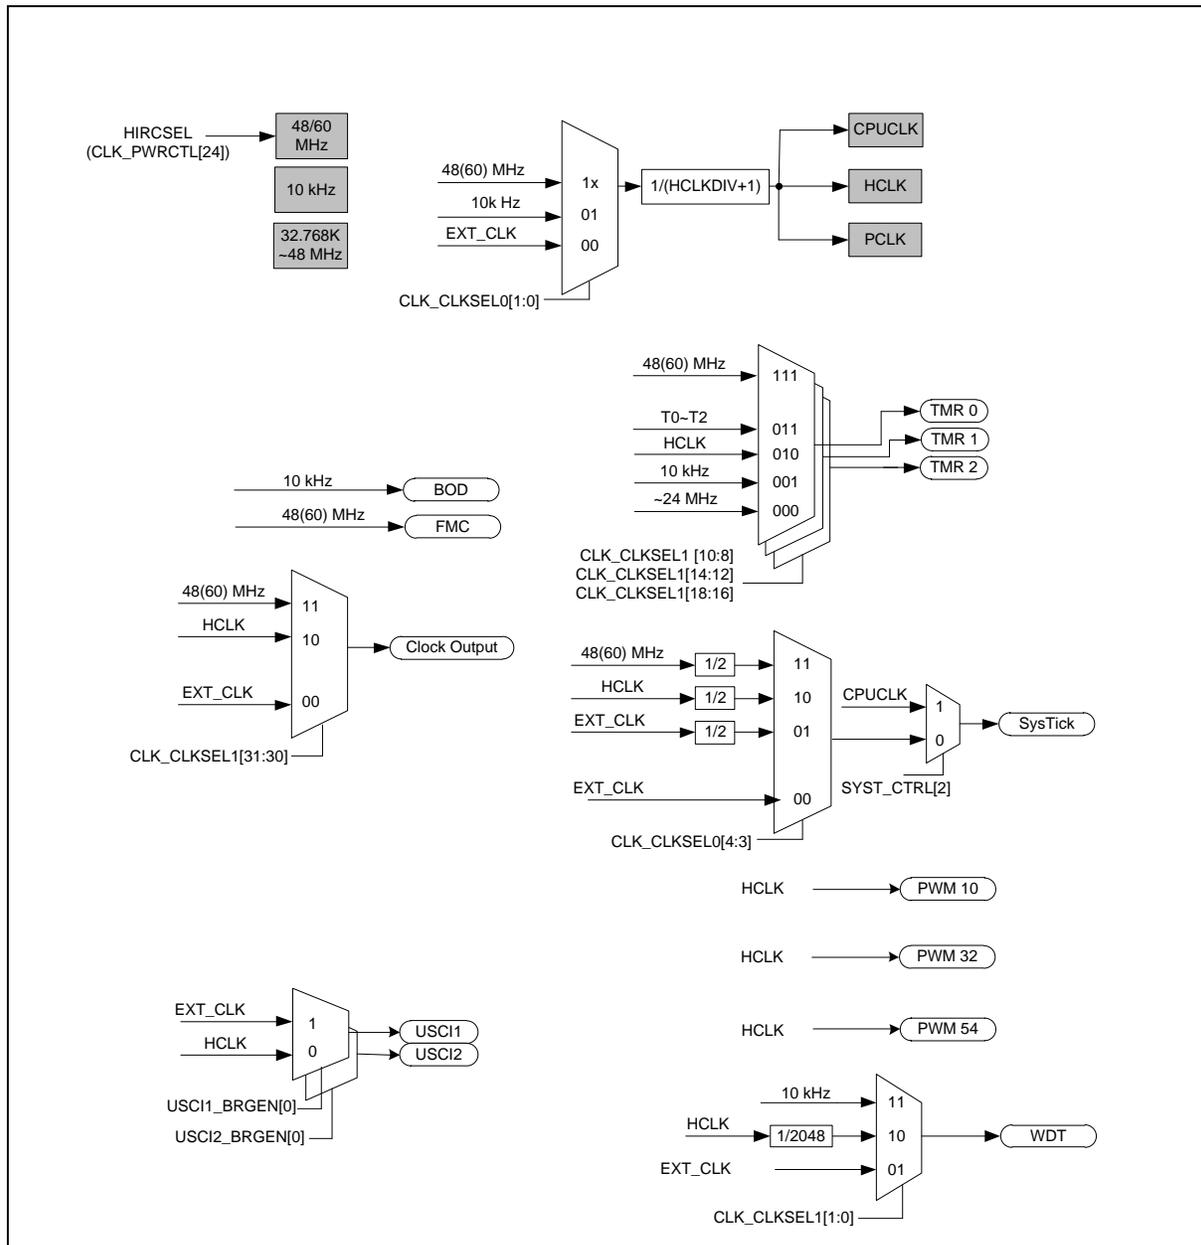

Figure 6.3-1 Clock Generator Global View Diagram
The clock controller generates clocks for the whole chip, including system clocks and all peripheral clocks. The clock controller also implements the power control function with the individual clock ON/OFF control, clock source selection and clock divider. The chip enters Power-down mode when the Cortex[®]-M0 core executes the WFI instruction only if the PDEN (CLK_PWRCTL[7]) bit set to 1. After that, chip enters Power-down mode and waits for wake-up interrupt source triggered to exit Power-down mode. In Power-down mode, the clock controller turns off the external clock input (EXT_CLK) and 48(60) MHz internal high speed RC oscillator (HIRC) to reduce the overall system power consumption. Figure 6.3-1 shows the clock generator and the overview of the clock source control.